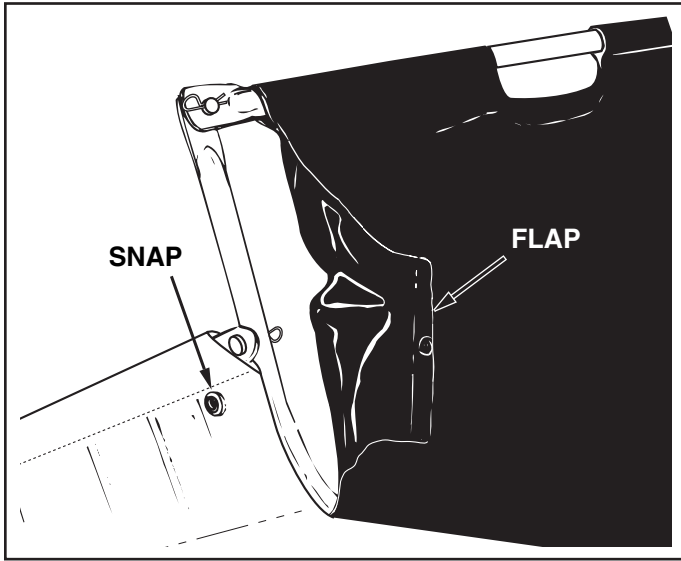

FIGURE 15
- Fold the bag flaps around the lower hopper tubes and attach to the bag bottom using the snaps. See figure 15.